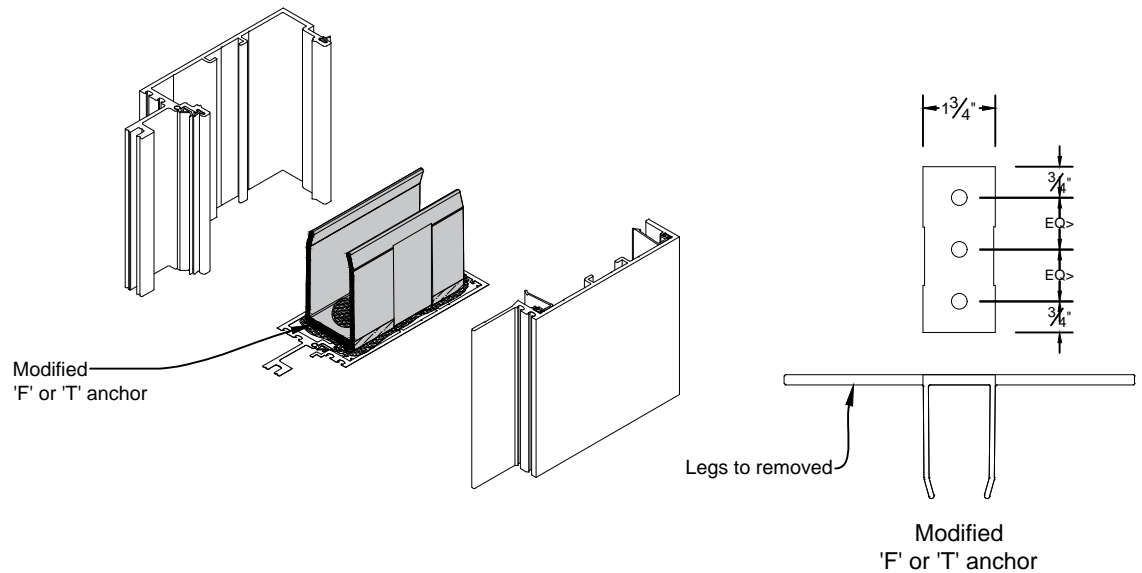

Fig. 61.1
- B. Curtain wall verticals and door sub frames run to floor. Bed verticals in sealant and anchor to building per approved shop drawings. See Fig. 61.1 for possible anchoring method.